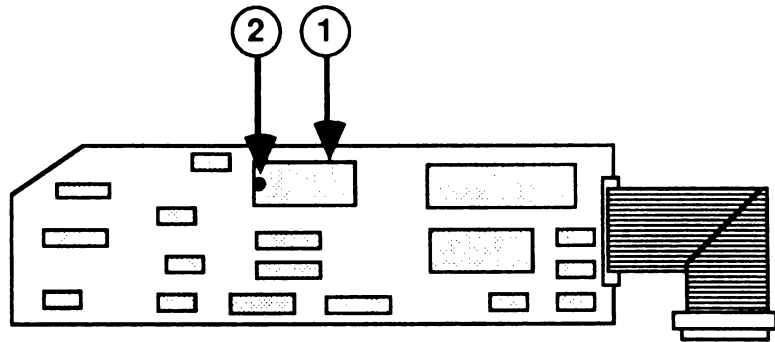

FIGURE 4
1. Locate the old ROM chip at coordinate A3 on the SCSI Interface Card (Figure 4, #1).
3. Position the new ROM chip on the socket. Be sure that the notch on the ROM (Figure 4, #2) is facing **away from** the cable on the SCSI Interface Card. Press the ROM firmly into the socket.